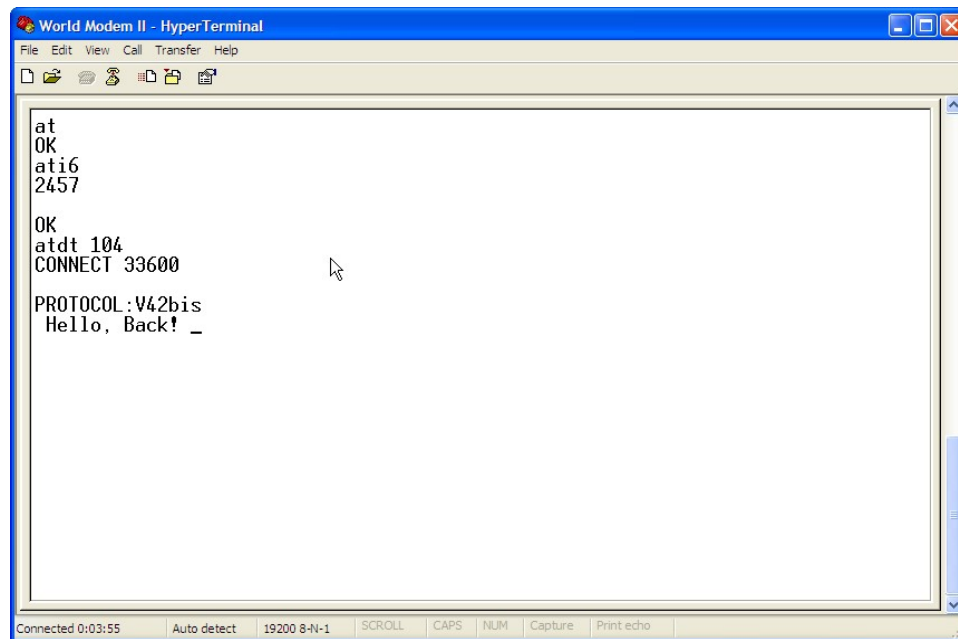

Figure 13
STEP 9: (World Modem II) To dial another modem, type "ATDT" plus the number you want to dial, followed by a carriage return. For this example, the modem being dialed is at "104" on the phone line simulator. The modem on the other end must either be set to auto answer or must issue an "ATA" plus carriage return to answer the call. Figure 13 shows the response after a connection is made.
STEP 9: (World Modem NET) All commands to the World Modem NET must start with AT+I. To communicate directly with the modem chipset, enter "AT+IMCM <cr>". This will bypass the Internet chipset. Enter "+++>" to return to the Internet chipset. To dial another modem, type "ATDT" plus the number you want to dial, followed by a carriage return. For this example, the modem being dialed is at "104" on the phone line simulator. The modem on the other end must either be set to auto answer or must issue an "ATA" plus carriage return to answer the call. Figure 13 shows the response after a connection is made.